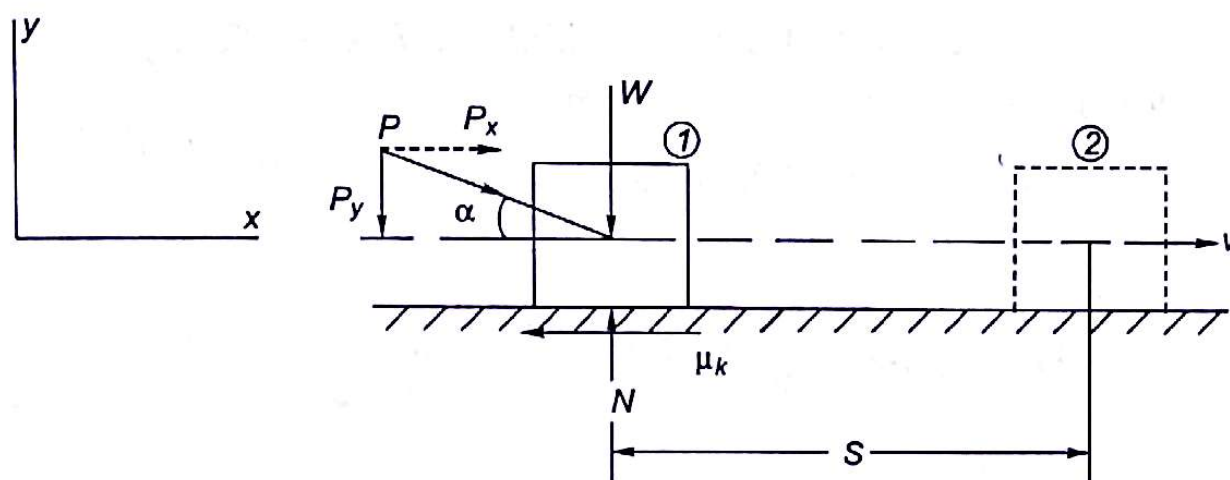

Fig. 19.5
Consider a block of weight W on a horizontal rough surface. A force P is inclined on the block. N is the normal reaction on the block and $F = \mu_k N$ is the force of friction on the block, where μ_k is the coefficient of kinetic friction. The body has moved from position (1) to position (2). At position (2) the block has gained velocity V , (Fig. 19.5).